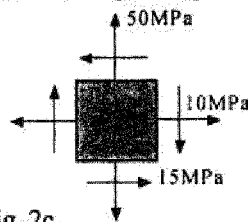

Fig. 2c
c) For the given state of stress (Fig.2c) construct Mohr's circle. Determine the principal stresses.